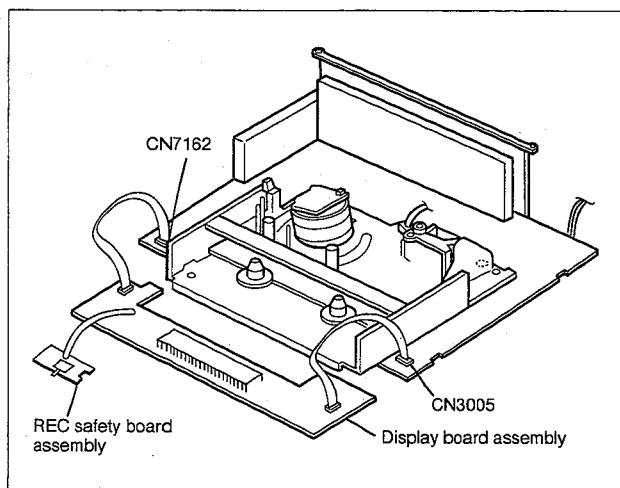

Fig. 1-4-3
- (7) Remove the Display board and the REC safety board assemblies (See 1.3 DISASSEMBLY/ASSEMBLY METHOD), then place them on the front side of the Main deck and the Main board assemblies which have been disassembled by procedure (6), and insert the flat wires into CN7162 and CN3005 of the Main board assembly (see Fig.1-4-3).
1.4.3 Cassette loading and ejection methods in the "SERVICE POSITION" (See Fig. 1-4-3).
- (1) Insert a cassette halfway in the Cassette holder assembly.
- (2) Set the switch on the REC safety board assembly to ON (by pressing the switch).
- (3) As soon as the cassette starts to be loaded, set the switch on the REC safety board assembly to OFF (by releasing the switch).
- (4) Now the desired operation (recording, playback, fast forward, rewind, etc.) is possible in this status (the status shown in Fig. 1-4-3).
- When performing diagnostics of the tape playback or the recording condition in the "SERVICE POSITION", enter the desired mode before turning the set upside down, and do not change the mode when performing diagnostics while the set is placed upside down. If you want to switch the mode, turn the set to the normal position (the status shown in Fig. 1-4-3).
- (5) The switch on the REC safety board assembly does not have to be operated when ejecting a tape. But be sure to turn the set to the normal position before ejecting the tape.
- (8) Plug the power cord into an AC outlet, and lift the cassette holder.